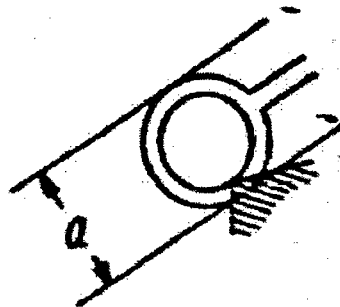

Fig. 13
- (2) Low Brightness (EV 3)
- (e) Adjust microammeter to between 31 and 41 μA . At this setting, at least the lower portion of the match needle, and not more than the complete needle should be within the lower warning mark, as shown in Figure 13.